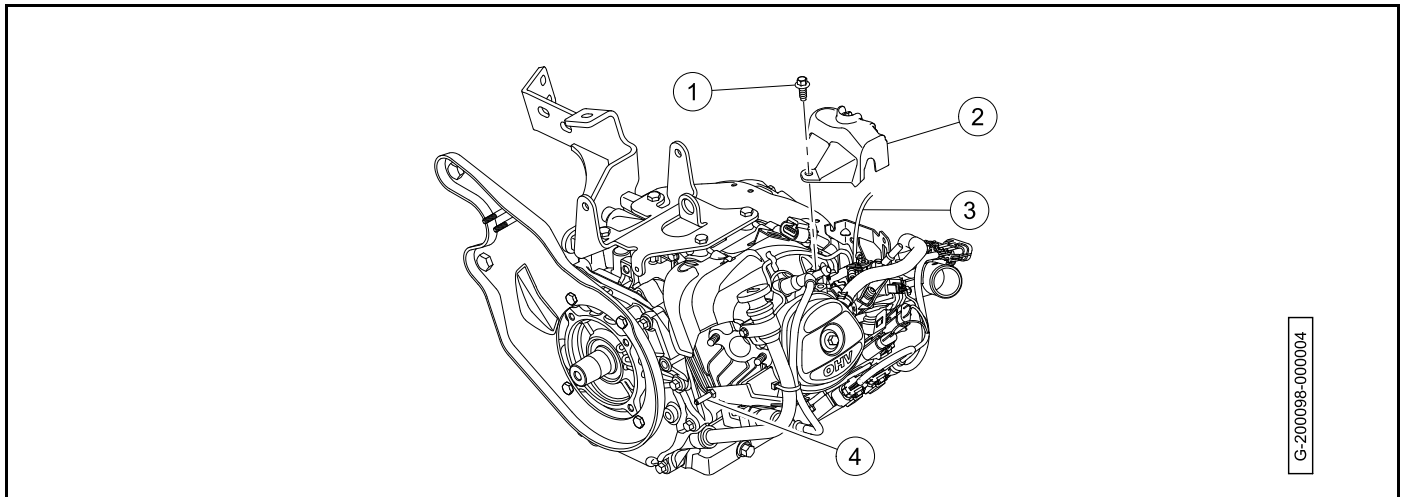

Figure 21-8 Governor Cover and Ground Cable Installation
16. Connect the ground cable to the engine (4) (Figure 21-8, Page 21-7).